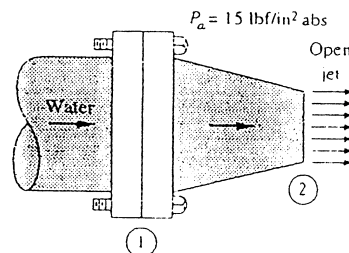

Fig. P3.49
3.49 The horizontal nozzle in Fig. P3.49 has $D_1 = 12 \text{ in}$, $D_2 = 6 \text{ in}$, with $p_1 = 38 \text{ psia}$ and $V_2 = 56 \text{ ft/s}$. For water at 20°C , find the force provided by the flange bolts to hold the nozzle fixed.